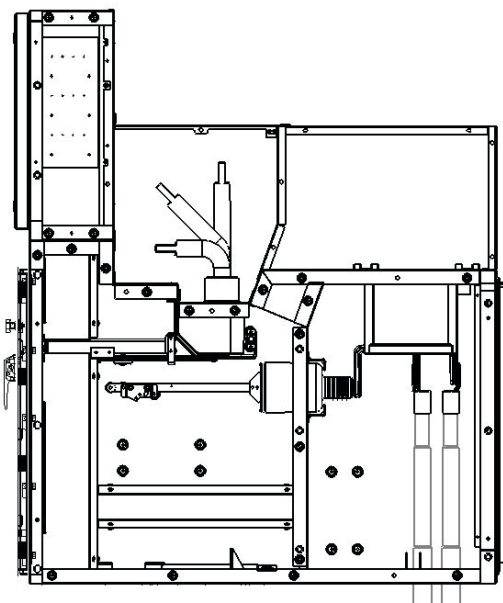
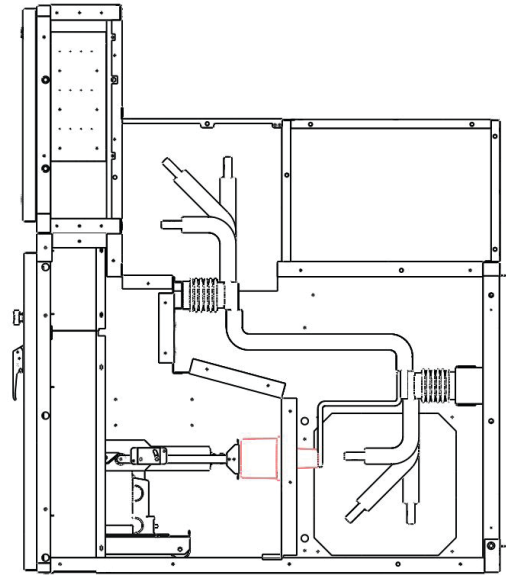

Fig. 3: Cross section of feeder unit 12kV, 1250A, 26.3kA.
Fig 6: Bus riser with withdrawable voltage transformer - 12kV, 1250A, 26.3kA
The basic ZN1 panel is an incoming/outgoing feeder panel with vacuum circuit-breaker using insertion technology. It is divided into circuit-breaker compartment (A), Busbar compartment (B), Cable compartment (C), Control cabinet (D) for the secondary equipment and integral gas duct (E). Apart from this, there are variants for various operating needs. Pictures in fig.3 to fig.6 show examples of possible